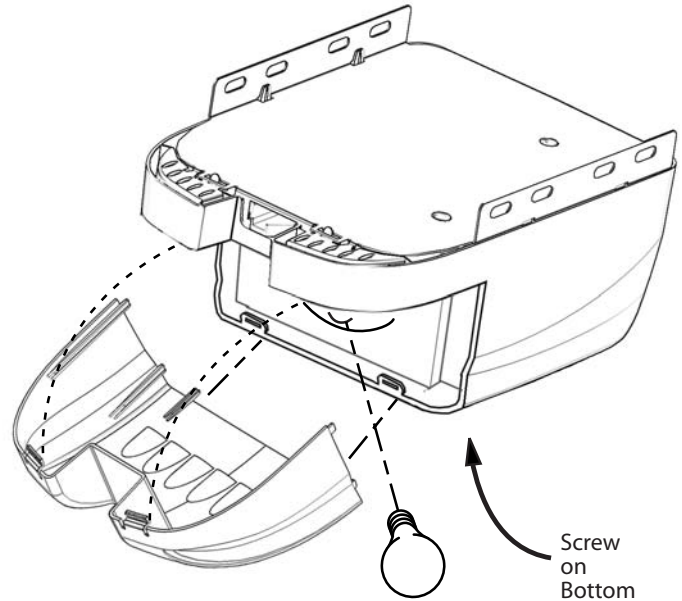

Figure 14 Install Lens and Light bulb
- A** Install a 100 Watt light bulb (not included) into Light Socket (**Figure 14**):